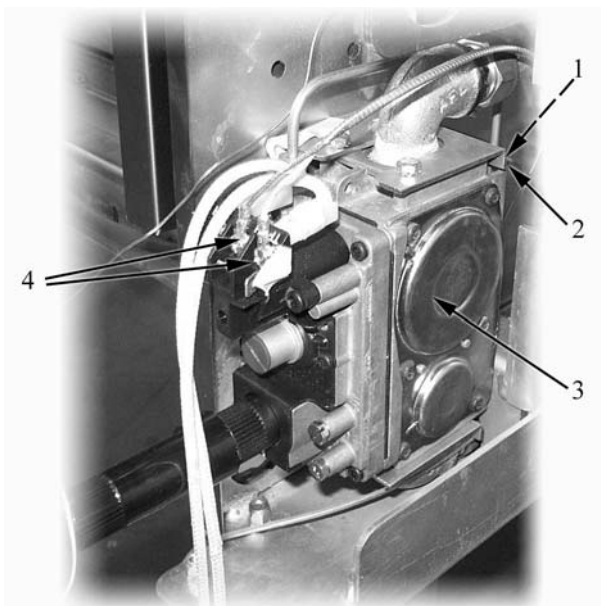

Fig. 17
- unscrew the fixing union of the thermocouple on the gas valve (item 1 in Fig. 17);
- disconnect the thermopile electrical connections on the gas valve (item 4 in Fig. 17);